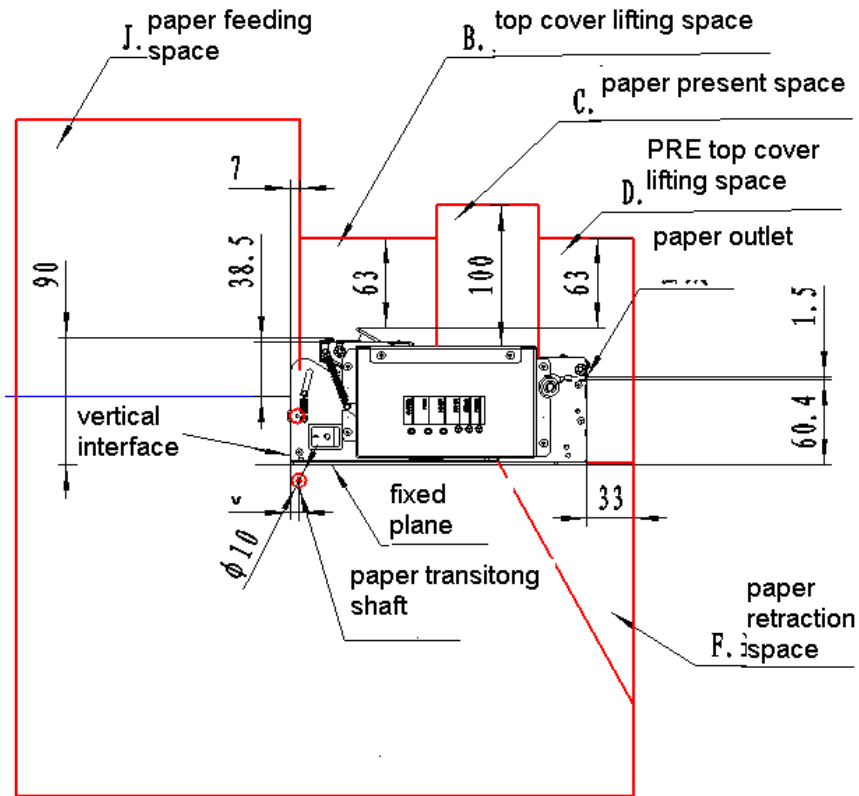
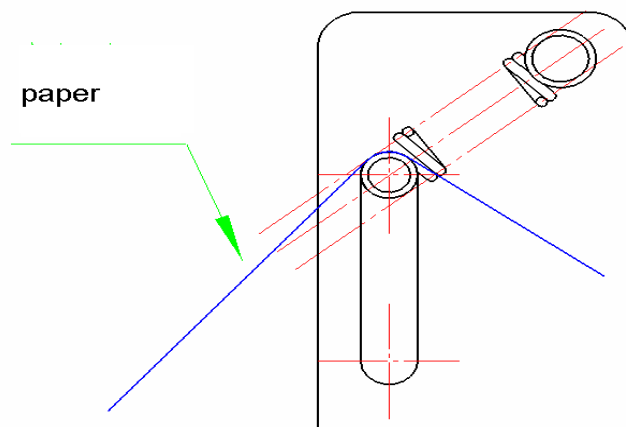

Figure 4.7.3 Structure without paper holder
Figure 4.7.8 Buffer explanation
- ◆J: paper feeding space allowed by the paper roll. If your printer doesn't have paper holder or the paper holder is made yourself, please consider the space. (Figure 4.7.3) There is a blue line in the space. If paper feeding is controlled above the blue line, your printer is considered to be horizontal. Or else, it is vertical. For horizontal type, you had better control the paper roll above the space, mainly in order to use the buffer mechanism of print mechanism to avoid compression. For vertical type, Please add buffer mechanism to paper holder (as figure4.7.8). In addition, if paper feeding touches vertical critical interface (as figure4.7.3) , please add paper transition roller to the paper holder in order to avoid that paper touches metal parts directly , causing paper damaged.